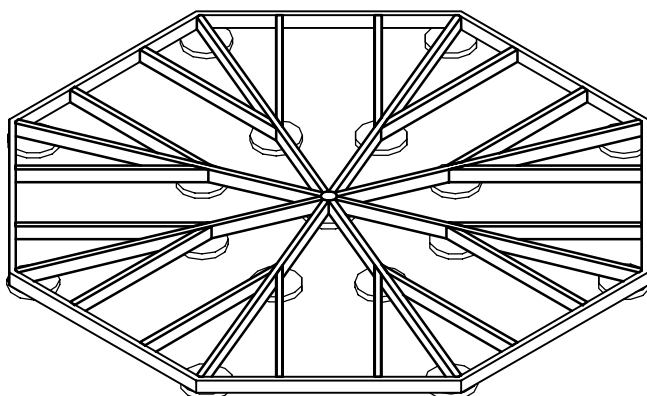

FIGURE S4
- Take the 17 two inch thick concrete blocks and place them under 17 foundation bearing points as outlined in Figure S4.
- Place concrete patio slabs as shown in Figure S4.